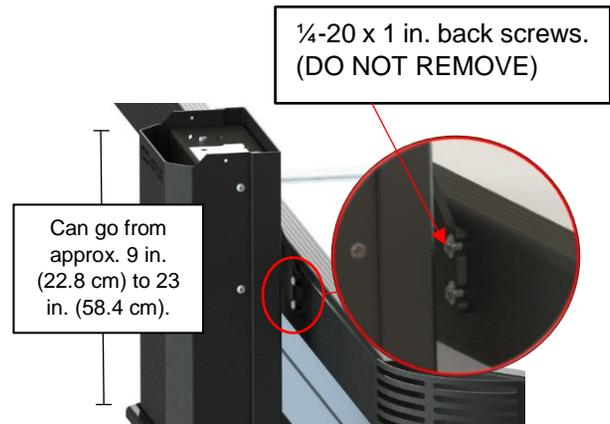

Figure 84
- ◆ The maximum height that can be obtained with the threaded rod is 23 in. (58.4 cm). **DO NOT** unscrew the threaded rod more than this height. Failure to follow this instruction will damage the post assemblies (Figure 84).
- 25) Tighten the two back 1/4-20 x 1 in. screws on both sides of the cover. (Figure 84)